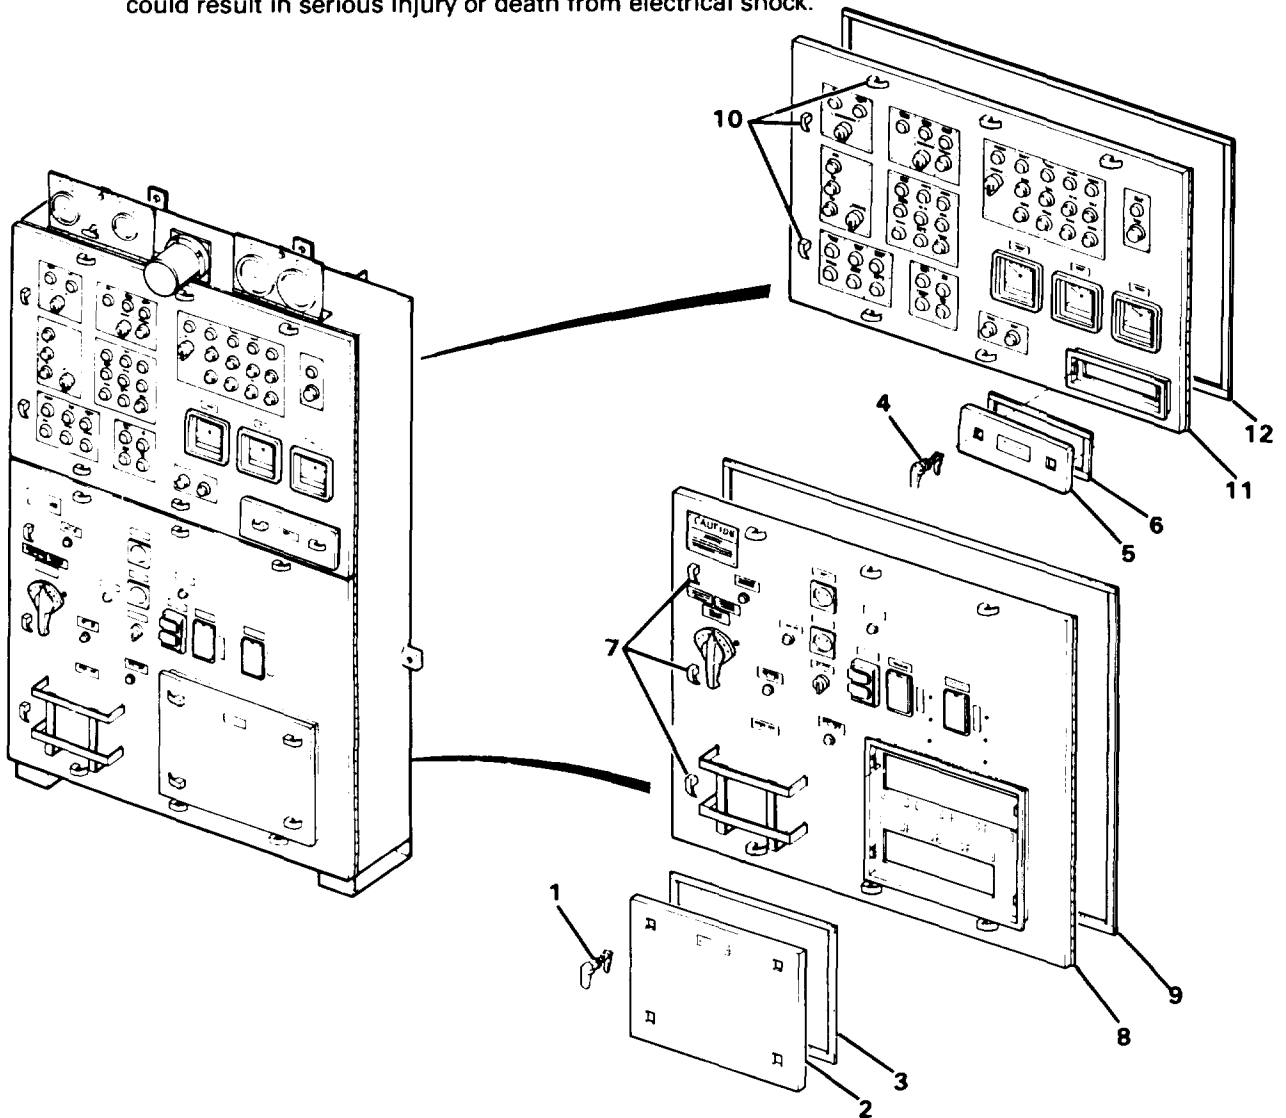

Figure 4-31. Doors, Latches and Gaskets (sheet 1 of 2)
- a. Lift and turn door latches 90° to unlatch (1, Figure 4-31, sheet 1) and remove door (2).
- b. Remove gasket (3), if necessary.
- c. Lift and turn two latches (4) and remove door (5).
- d. Remove gasket (6), if necessary.
- e. Lift and turn nine latches (7), open door (8), and remove gasket (9), if necessary.
- f. Lift and turn seven latches (10), open door (11), and remove gasket (12), if necessary.